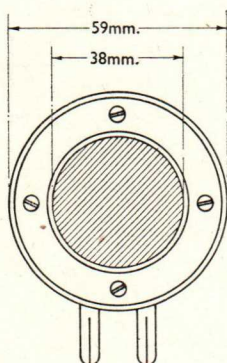
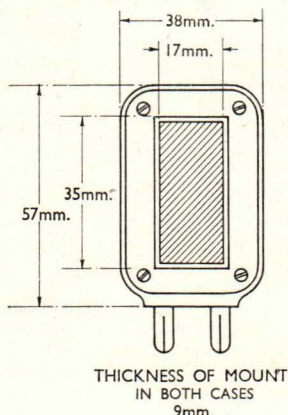

Fig. 1
Fig. 2
G.E.C. rectifier cells are supplied in two forms : No. 1, circular (fig. 1) and No. 2, rectangular (fig. 2). In both cases, the sensitised surface is fitted in a mount provided with prong terminals which fit a standard 3-amp socket.